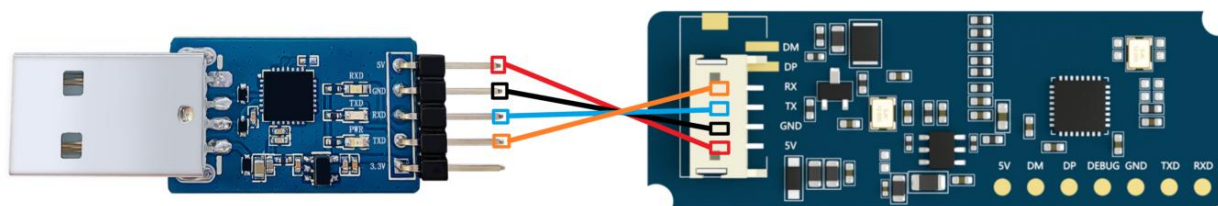

Figure 4-1 Connection between the E54-24LD12D module and the serial port tool
Step 2: Use a cable to connect the E54-24LD12D module to the serial port tool . See Figure 4-1 for the connection method. Connect the module to the host computer through the serial port tool.